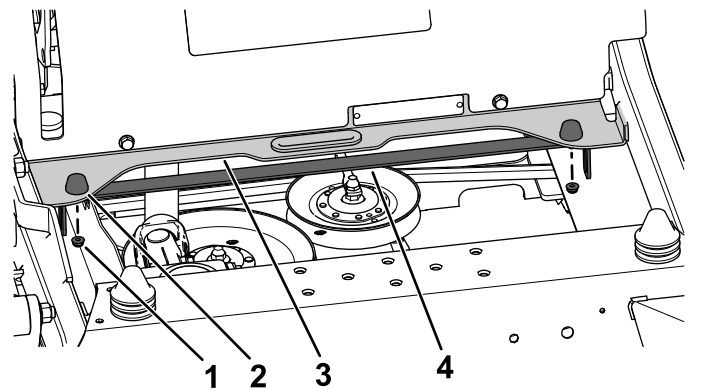

Figure 12
- Secure the brace bracket to the cross brace and rubber bumpers using the previously removed 2 locknuts (1/4 inch) as shown in Figure 12.